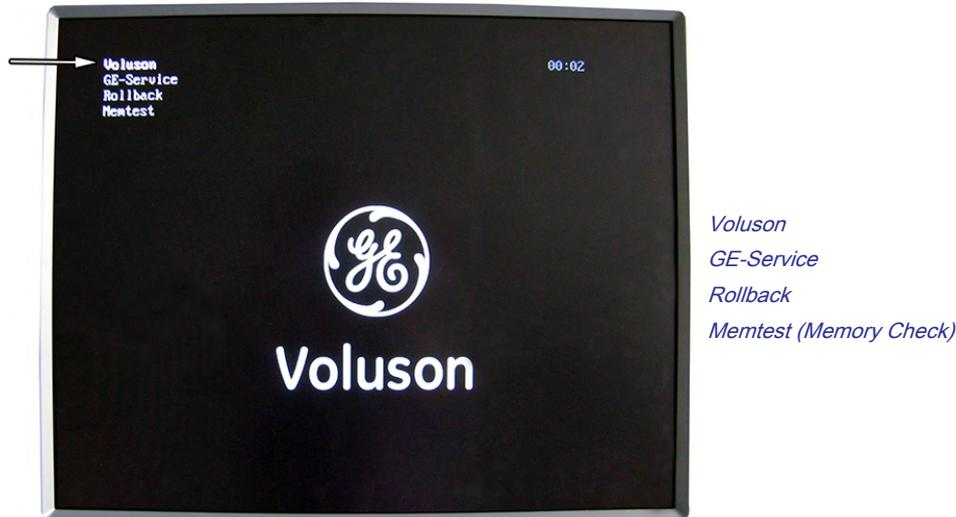

Figure 5-23 Boot screen
2. As soon as the “Boot Screen” appears (see: Figure 5-23 on page 5-45), press the **[PgDn]** (Arrow down) key on the keyboard until the **Rollback** item is highlighted, then press **Enter**.
2. As soon as the “Boot Screen” appears (see: *Figure 5-23 on page 5-45*), press the **[PgDn]** (Arrow down) key on the keyboard until the **Memtest** item is highlighted, then press **Enter**.